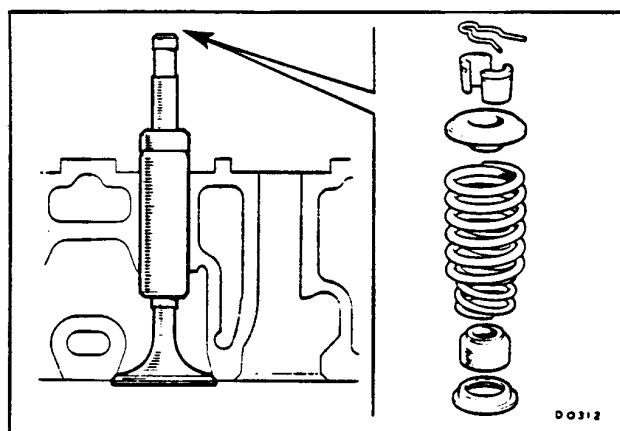

Fig. 1
9. Renew the valve stem oil seals, and reassemble the valve components to the cylinder head as shown in Fig. 1.